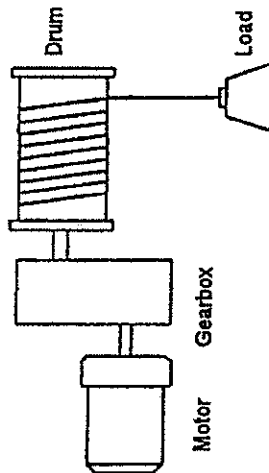

Figure 5: Hoist.
- (b) A motor and gearbox is to be selected to drive a hoist (Figure 5). The drum has to rotate at a minimum speed of 20rpm and achieve a hoisting speed of 0.4m/s for the load. Two suitable motors with their respective specifications are listed as follows: